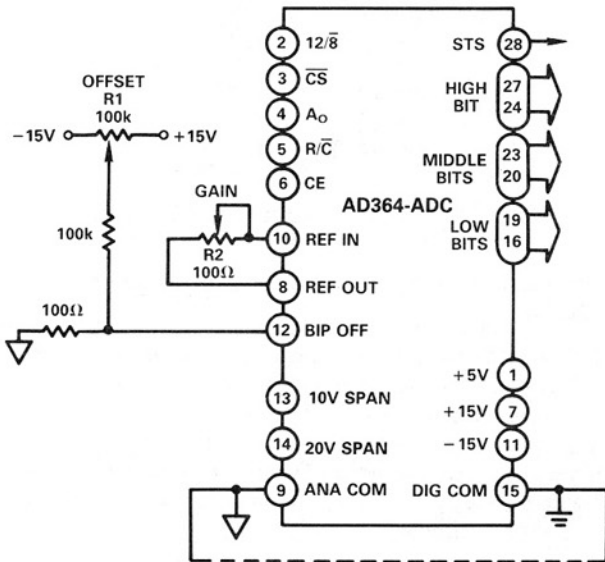

Figure 10a. Unipolar Gain & Offset
**Offset Adjust, AD364-ADC:** Offset adjust circuits for unipolar and bipolar operation are shown in Figures 10a and 10b. In each case the potentiometer should be a multi-turn, low temperature coefficient device, such as 20-turn cermet. Lowest offset drift in unipolar operation will be realized when the fixed resistors are low-TC (100 ppm/ $^{\circ}\text{C}$ ) metal-film types.
\*Refer to Figure 10a for gain and offset adjustments.